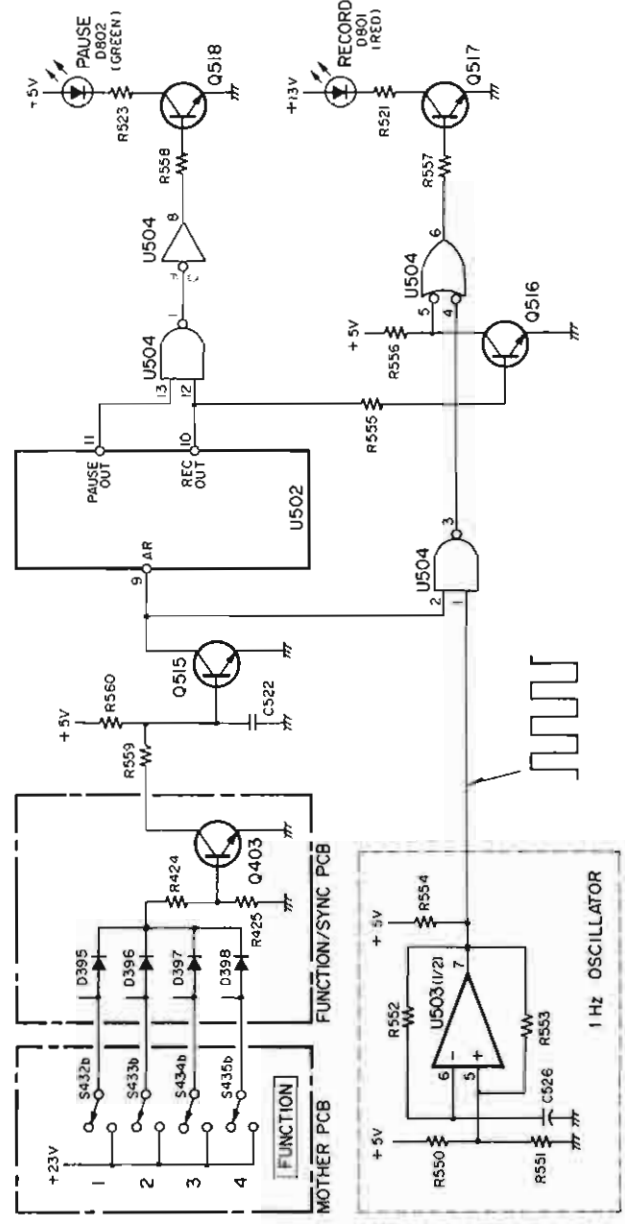

Fig. 6-12 LED driver circuit
When FUNCTION SELECT switch conductivity is obtained on at least one channel of CH1 to CH4, the base current of Q403 flows in Route ③ with Q403 conductive. Therefore, the low level REC MODE signal is supplied to the CONTROL PCB. (This signal supplies the system control IC with recordable signals with the Q515 cut off on the CONTROL PCB, and causes the RECORD LED to flash. . . See item 6-8-1 and Fig. 6-12.)
(2) RECORDING START